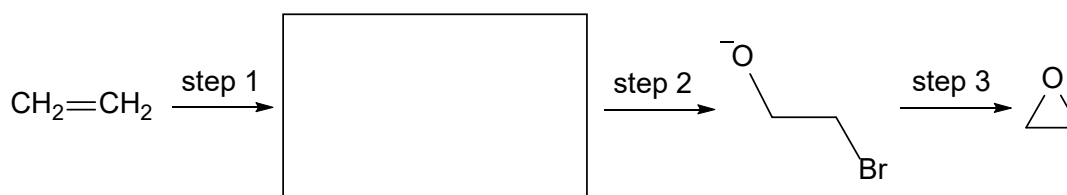

Fig. 4.2
Ethylene oxide can be prepared in a 3-step process shown in Fig. 4.2.
- (i) Draw the structure of the intermediate in Fig. 4.2. [1]
- (iii) On Fig. 4.2, draw the mechanism of the reaction in step 3.